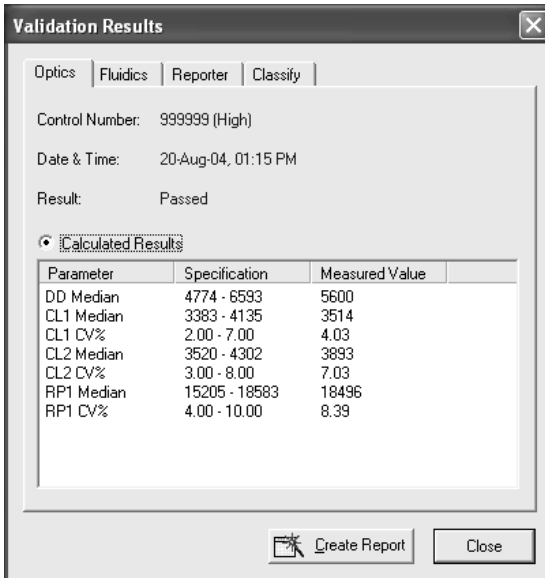

Fig. 3. Validation results.
- When the procedure has completed, the results will be displayed in a dialog box, as shown in Figure 3: